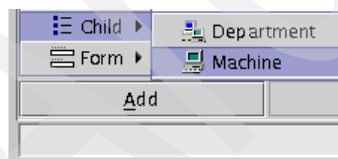

Figure 12-13 Network, Add, Child, Machine
2. From the menu located at the bottom left of the window, select **Add** → **Child** → **Machine** as shown in Figure 12-13.